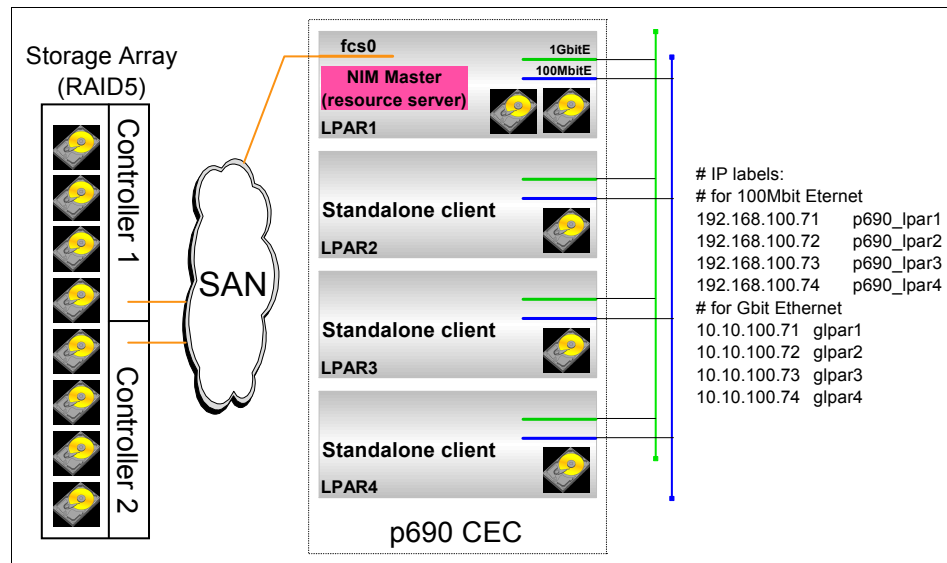

Figure 7-4 Test environment NIM diagram
Later we configured NIM to use the gigabit Ethernet (connected to a GbitE switch), and also used the external fibre channel (FC) storage, connected via a Storage Area Network (a FC switch). A diagram of our test environment is presented in Figure 7-4.